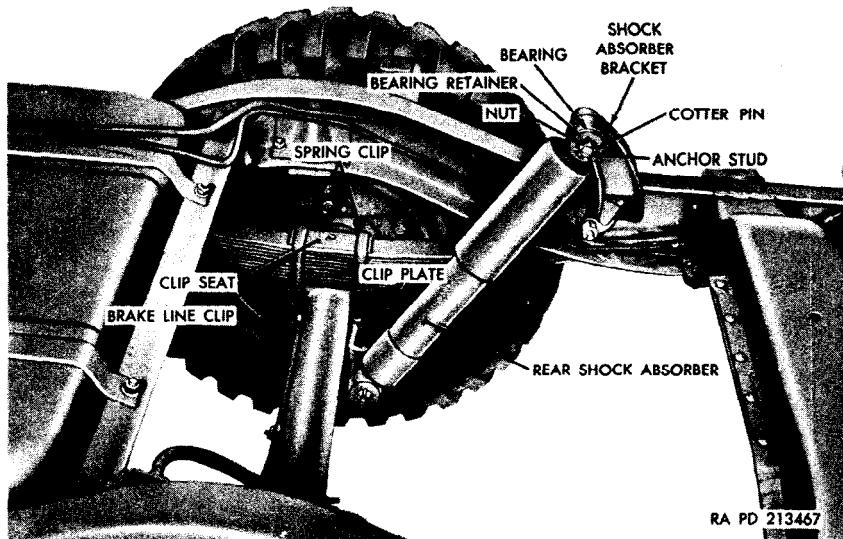

Figure 202. Rear spring and shock absorber.
- (5) Remove the lubrication fittings from the two spring bolts. Unscrew and remove the two bolts.
- (6) Support the spring clip plate (fig. 202) from the under
- (2) Position the spring on the axle with the center bolt head in the recess in the axle housing. Install the clip seat (fig. 202) over the spring and install the two spring clips (**U**-bolt) over the spring clip (**U**-bolt) seat and through the holes in the clip plate, being careful not to damage the brake line.
- (1) Remove the cotter pin, slotted nut, and bearing retainer that attach each end of the shock absorber to the anchor stud (fig. 202).
- (2) Remove the shock absorber and the four rubber bearings from the anchor studs.
- (1) If the anchor studs and inner retainers were removed (*b*(3) above), install retainers and new studs in the shock absorber bracket and the spring clip plate. Install a $\frac{3}{4}$ -16NC triple slotted nut on the stud, tighten, and install a $\frac{5}{32} \times 1\frac{3}{4}$ cotter pin for each stud.
- (2) Place a bearing in each side of each eye of the shock absorber with the small diameter of each bearing toward the eye. Install the shock absorber (large end up) with the bearings on the anchor studs (fig. 202).
- (3) Install a bearing retainer and a $\frac{3}{4}$ -16NC triple slotted nut on each stud. Tighten the nuts and install a $\frac{5}{23} \times 1\frac{3}{4}$ cotter pin for each stud.